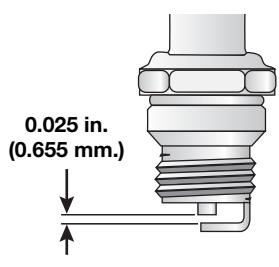

Fig. 36
- Replace cracked, fouled or dirty spark plug. Set the air gap at 0.025 in. (0.655 mm.) using a feeler gauge (Fig. 36).